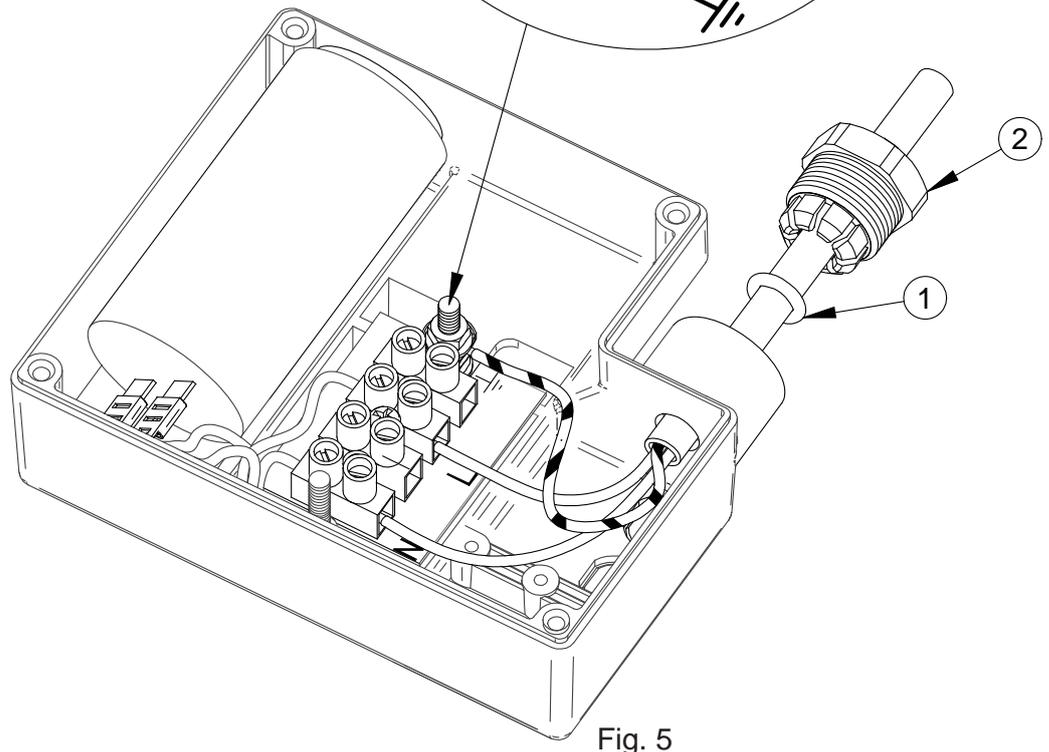

Fig. 5
The cable gland assembly Fig. 5 (items 1 & 2) provides the necessary protection against ingress of solid objects and moisture as well as providing cable retention.
3. Disassemble cable gland as shown in Fig. 5 and insert cable into position ensuring 'O'-ring (item 1) is placed over the cable before the clamping insert (item 2) is tightened.
7. Confirm cable routing is as shown in Fig. 5 and assemble and secure terminal box lid.